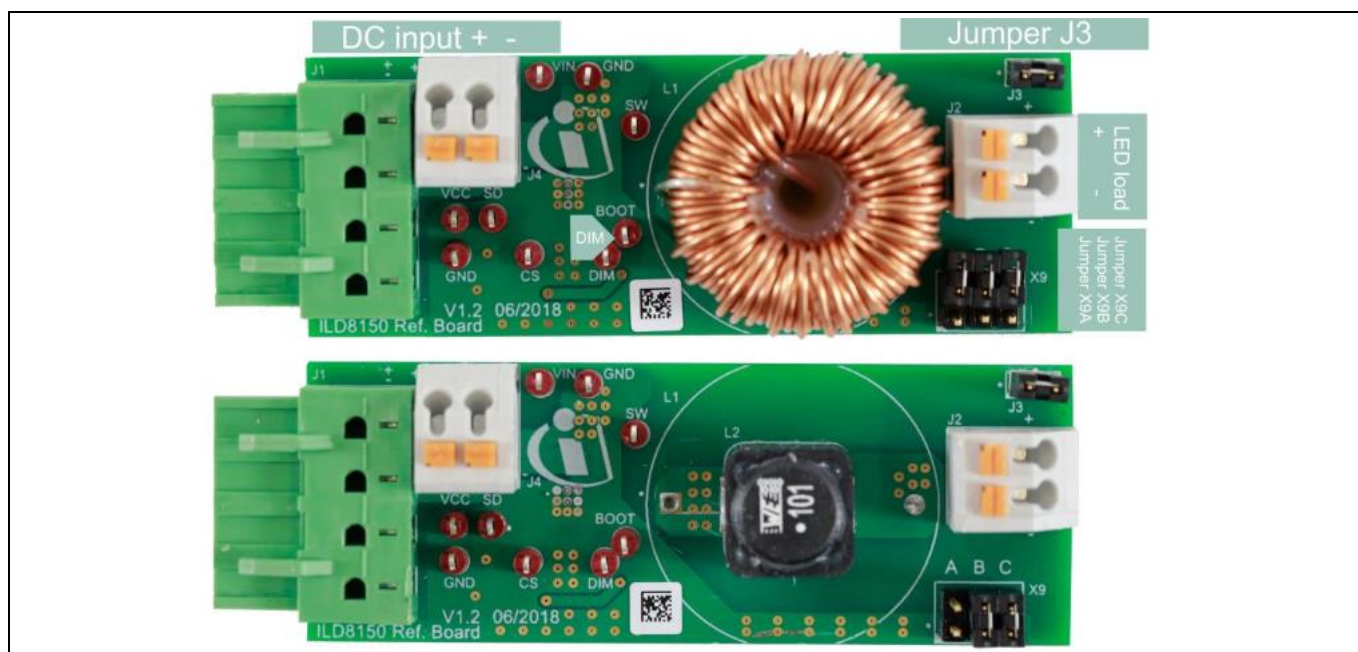

Figure 3 ILD8150 100 W reference board
- The ILD8150 100 W reference design is a DC-DC high-side buck CC LED driver, as shown in Figure 3. It has a wide input voltage range from 3 to 78 V and output current up to 1.5 A. There are two board variations, requiring a trade-off between system size and power efficiency. The comparison is shown in Table 1.